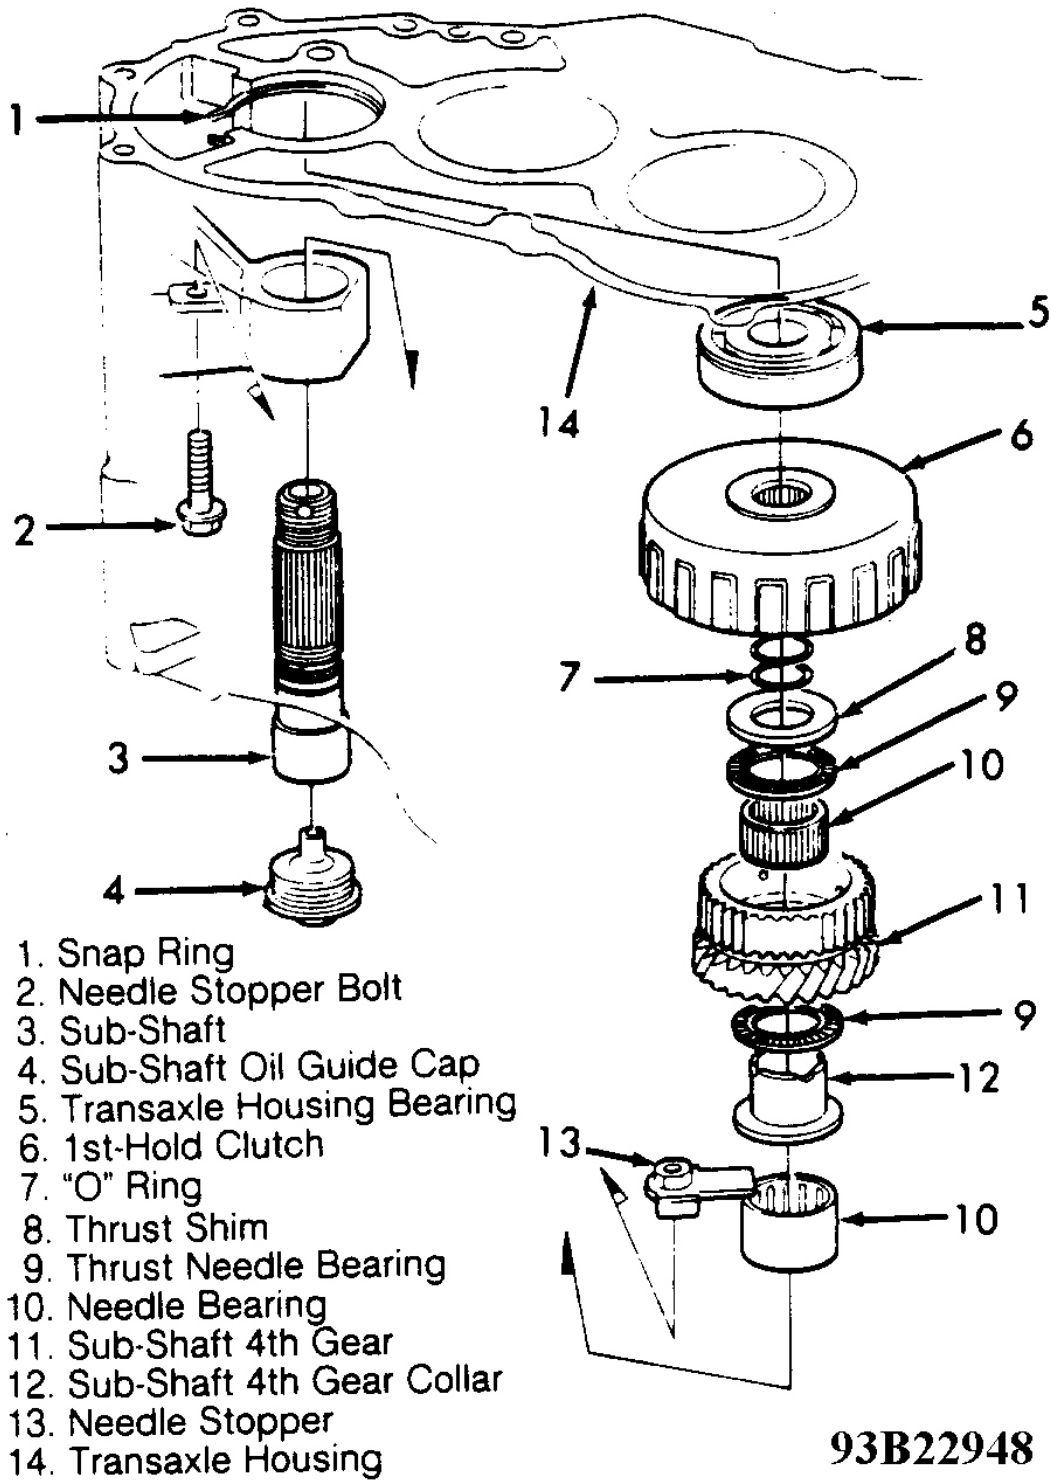

Fig. 24: Exploded View Of Sub-Shaft & Components
1. Remove sub-shaft oil guide cap. See **Fig. 24** . Remove sub-shaft, 1st-hold clutch, sub-shaft 4th gear and components.